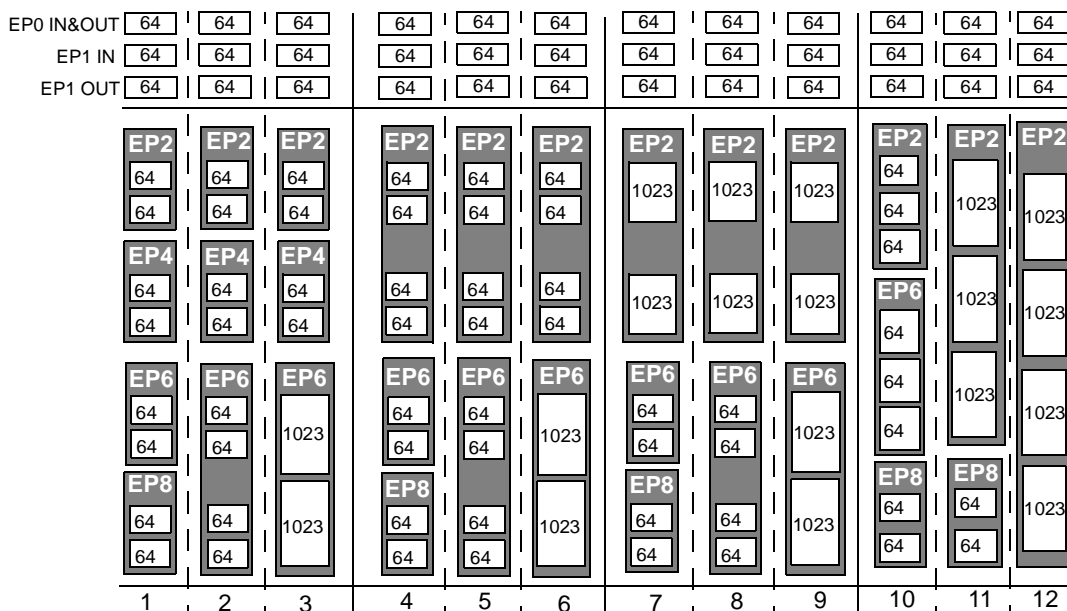

Figure 4-5. Endpoint Configuration
- EP2,4,6,8—Eight 512-byte buffers, bulk, interrupt, or isochronous, of which only the transfer size is available. EP4 and EP8 can be double buffered, while EP2 and 6 can be either double, triple, or quad buffered. Regardless of the physical size of the buffer, each endpoint buffer accommodates only one full-speed packet. For bulk endpoints the maximum number of bytes it can accommodate is 64, even though the physical buffer size is 512 or 1024. For an ISOCHRONOUS endpoint the maximum number of bytes it can accommodate is 1023. For endpoint configuration options, see Figure 4-5.